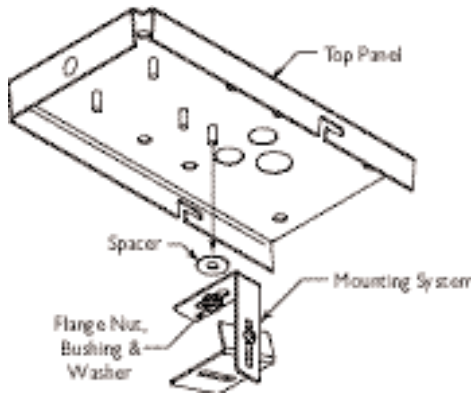

Figure 3 Removing the Mount System
4. Unscrew the flange nut and remove the camera mounting system from the top panel. See **Figure 3**.